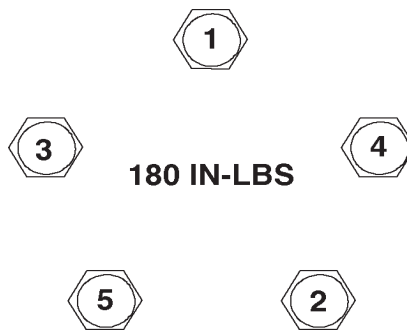

FIGURE 4. BEARING HOUSING TORQUE SEQUENCE
- XV. Install the connecting rods. Thoroughly oil the crankshaft and rods before installing them. When installing the rods, make certain that the tabs are aligned on the same side of the rod, see Fig. 4.